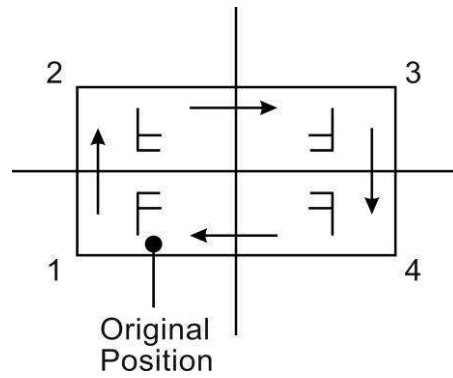

Fig. 11
(4) Press **Reverse** button to control the direction of the real-time image. The real-time image will do a horizontal reverse or vertical reverse (*See Fig. 11*).